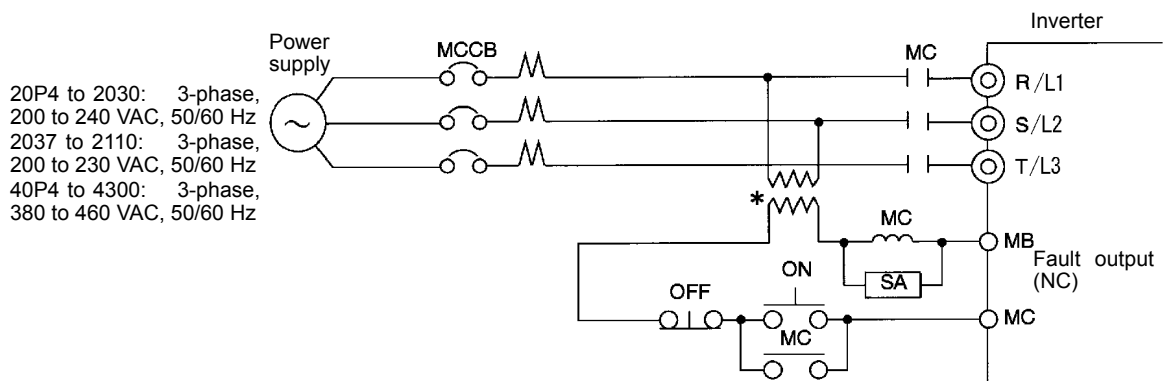

Fig 2.6 MCCB Installation
- If the same MCCB is to be used for more than one Inverter, or other devices, set up a sequence so that the power supply will be turned OFF by a fault output, as shown in *Fig 2.6*.